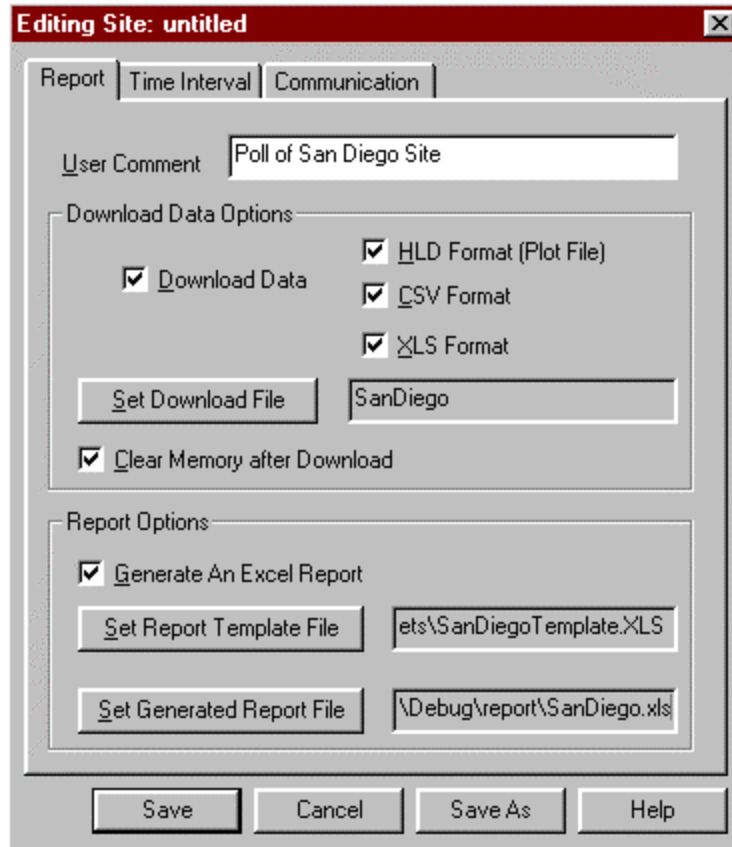

Figure 5.1.3a Report Tab, Example 5.1
3) Select the following Report options as illustrated in figure 5.1.3a below: